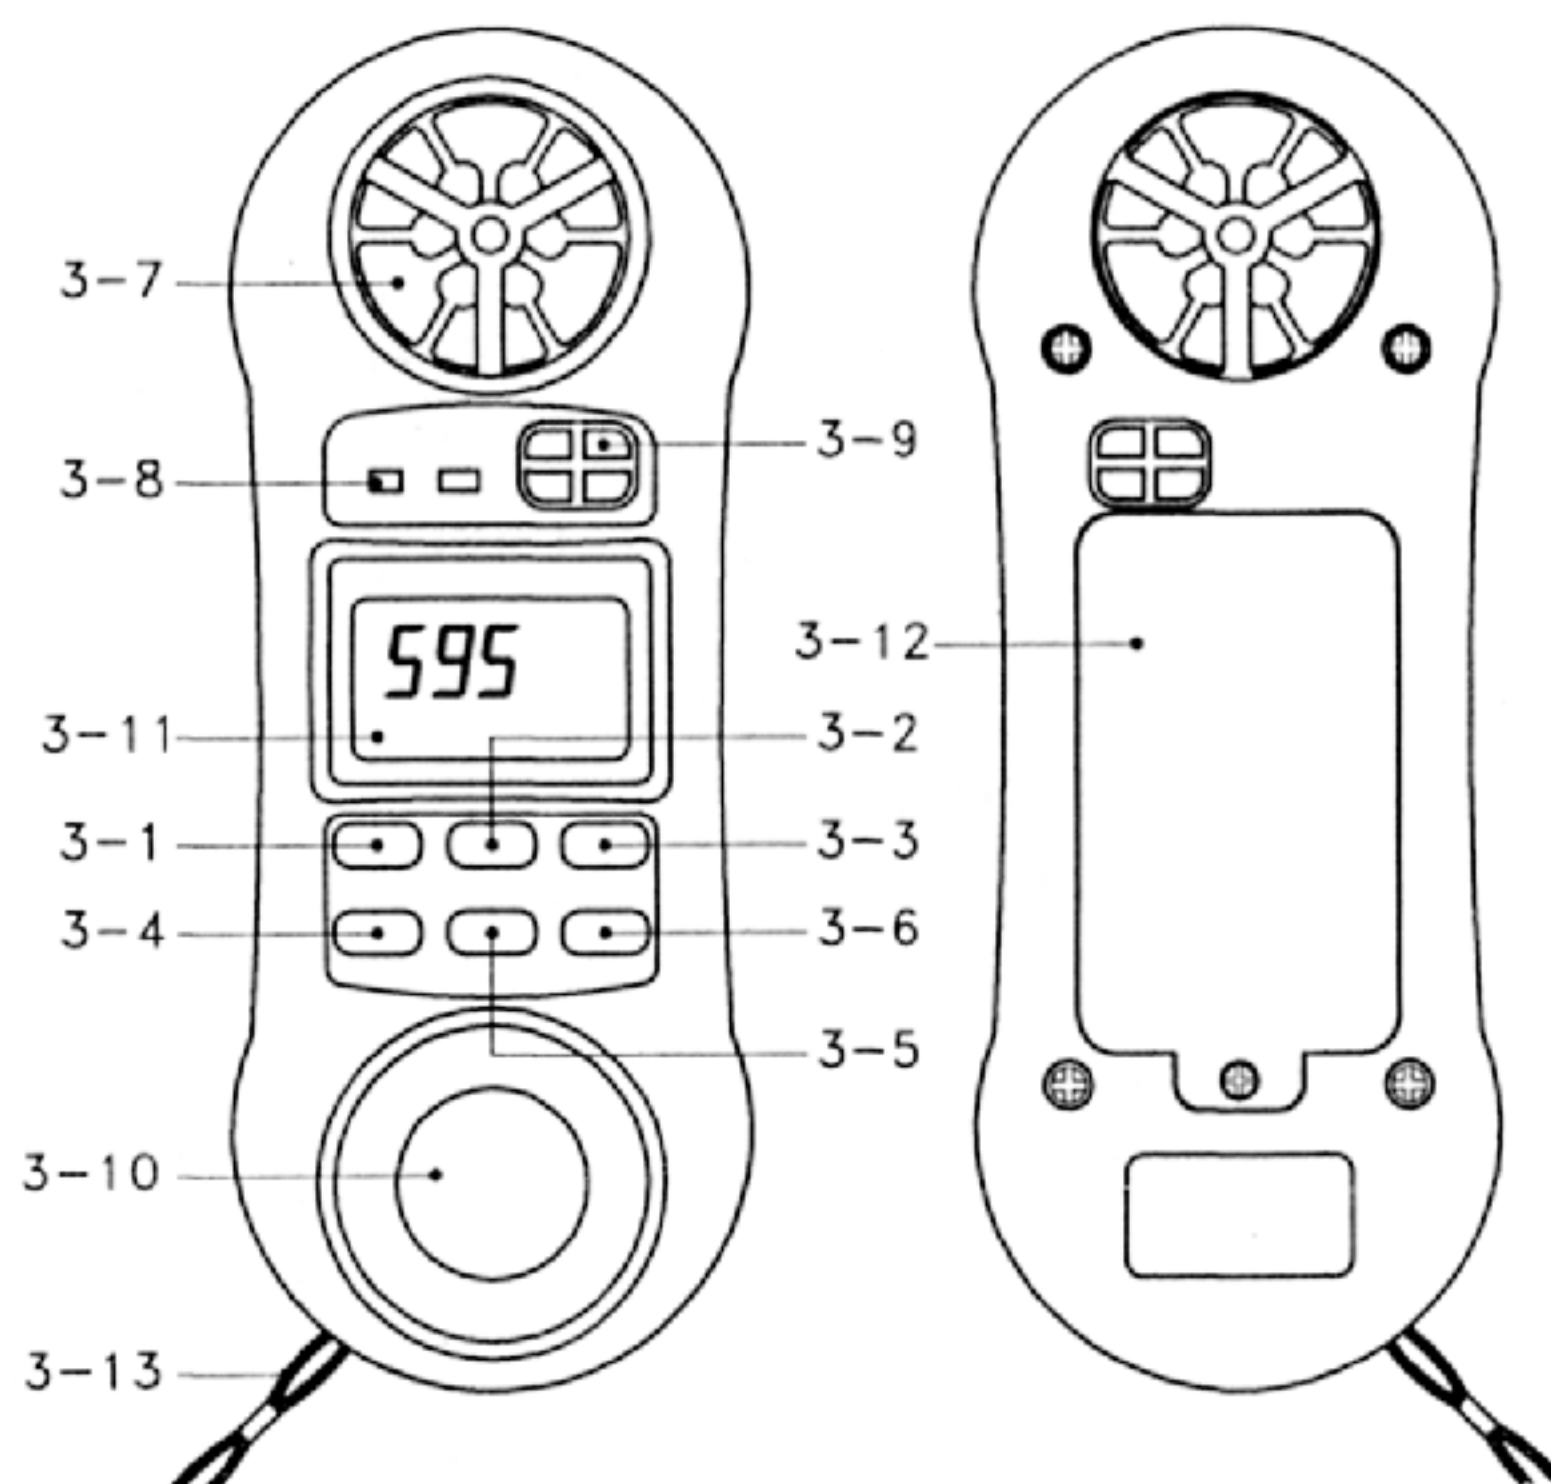

Fig. 1
- 1) Power on the instrument by pressing the " Power Button " ( 3-1, Fig. 1 ).
- 2) Select the Anemometer function by pressing " Function Button " ( 3-6, Fig. 1 ).
- 3) Press the " Unit/Zero Button " ( 3-4, Fig. 1 ) to select unit that you want and then face the " Air Flow Sensor " ( 3-7, Fig. 1 ) to the source of wind.
- 1) Power on the instrument by pressing the " Power Button " ( 3-1, Fig. 1 )..
- 2) Plug a type K thermocouple probe in the " Thermocouple Input Socket " ( 3-8, Fig. 1 ).
- 3) Select the Temperature function by pressing " Function Button " ( 3-6, Fig. 1 )
- 1) Power on the instrument by pressing the " Power Button " (3-1, Fig. 1).
- 2) Select the Relative Humidity function by pressing "Function Button " ( 3-6, Fig. 1 ).
- 2) Select the Light Measurement function by pressing the " Function Button " ( 3-6, Fig. 1 ) until the light value is displayed. The light display digits are oriented 180° from the other function displays for easy exposure and output reading of the light sensor.
- 3) Press the " Lux/Ft-cd Button " ( 3-5, Fig. 1 ) to select measuring unit " Lux " or " Ft-cd ".
- \* For best results zero the light sensor prior to use in a dark environment. Placing the light sensor end of the meter under a desktop or flat surface so as to block any light can accomplish this. Then press the "Unit/Zero Button" ( 3-4, fig. 1 ) to set the meter indication to zero.
Whenever press the "Hold Button (3-2, Fig. 1)" will freeze the current reading value with a "HOLD" symbol on the display.
- 1) The Data Record function records & displays the maximum and minimum reading values. Start the Data Record function by pressing the " Max./Min. Button " ( 3-3, Fig. 1 ) once. There will be a " REC " symbol on the display.
- (a) Press the " Max./Min. Button " ( 3-3, Fig. 1 ) once and the " Max " symbol along with the maximum value will appear on the display.
- (d) Clear the Max./Min. value recorded by pressing the " Hold Button " ( 3-2, Fig. 1 ) once. Previous recorded Max./Min. value will be given up and then revert to the REC. function keep on recording.
- 2) Open the " Battery Compartment / Cover " ( 3-12, Fig. 1) and remove the battery.